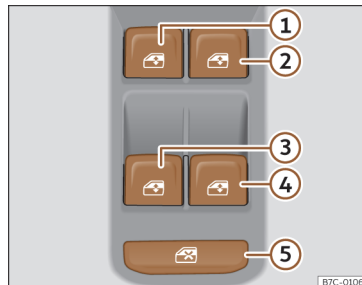

Fig. 93 Detail of the driver's door: window controls.
The safety control »» **Fig. 93** ⑤ on the driver door can be used to disable the electric window buttons on the rear doors.